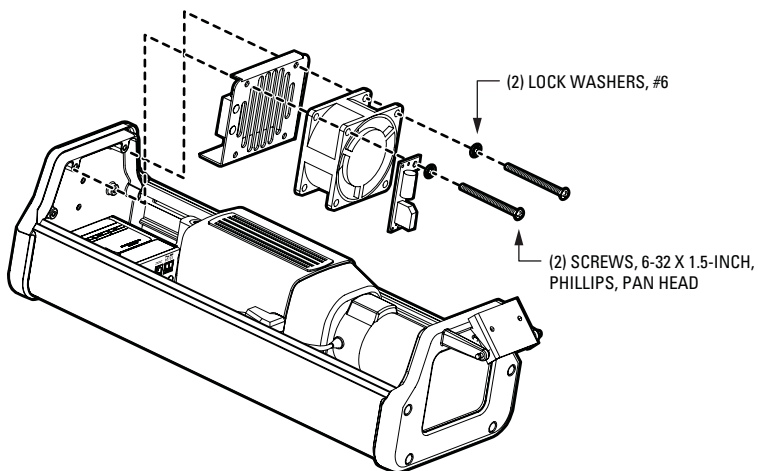

Figure 13. Reinstalling EH3512/EH3515 Heater Bracket, Blower, and Heater
- a. Reattach the rear heater bracket, blower, and heater to the enclosure using the two 6-32 x 1.5-inch Phillips pan head screws and lock washers (refer to Figure 13).